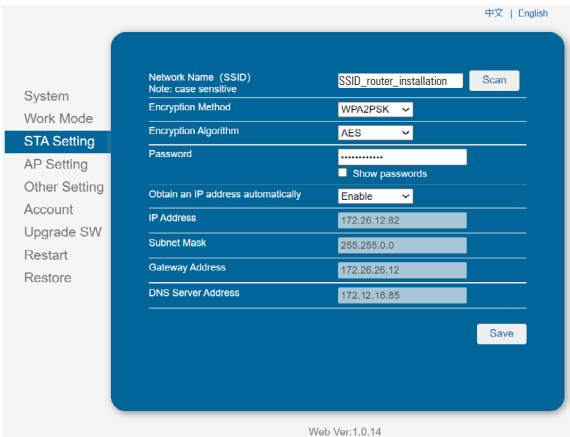

Fig. 45. WiFi setup interface.
6. Next, a pop-up message will appear to remind you to enter the WiFi password, click on "Accept". See Fig. 45.